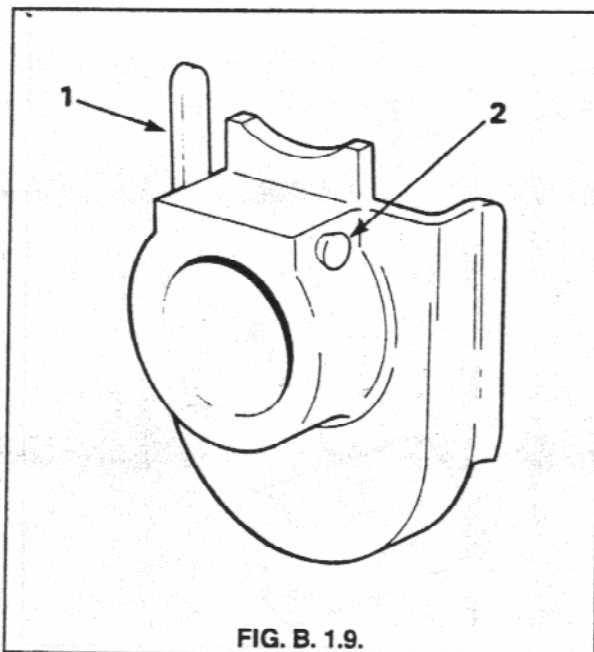

FIG. B. 1.9.
4. Repairs to handguard front holder are to be carried out by the manufacturer as it is a non stock item. Fig. B.1.9.